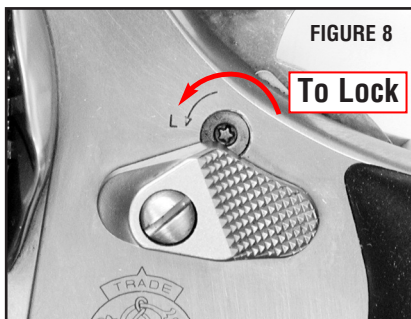

FIGURE 8
- Hold the revolver with the cylinder open in one hand. Insert the key and turn it counter-clockwise using the other hand. The key will turn approximately 90°. The locked indicator flag will become visible on revolvers with exposed hammers. A definite stop and detent will be felt when the key is turned to either the locked or the unlocked position (FIGURE 8).